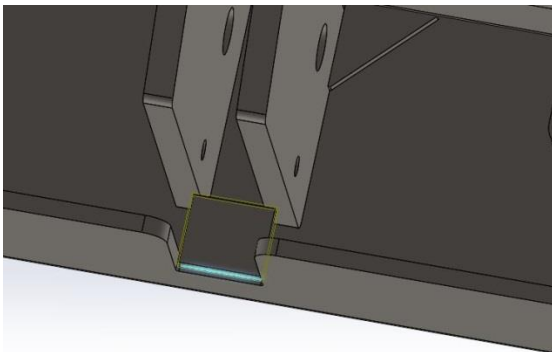

Figure 8
6. Weld the hose tab at the location shown in blue, Figure 8. The arm cylinder hoses will be routed under this tab to keep them clear during the operation of the rear assembly.